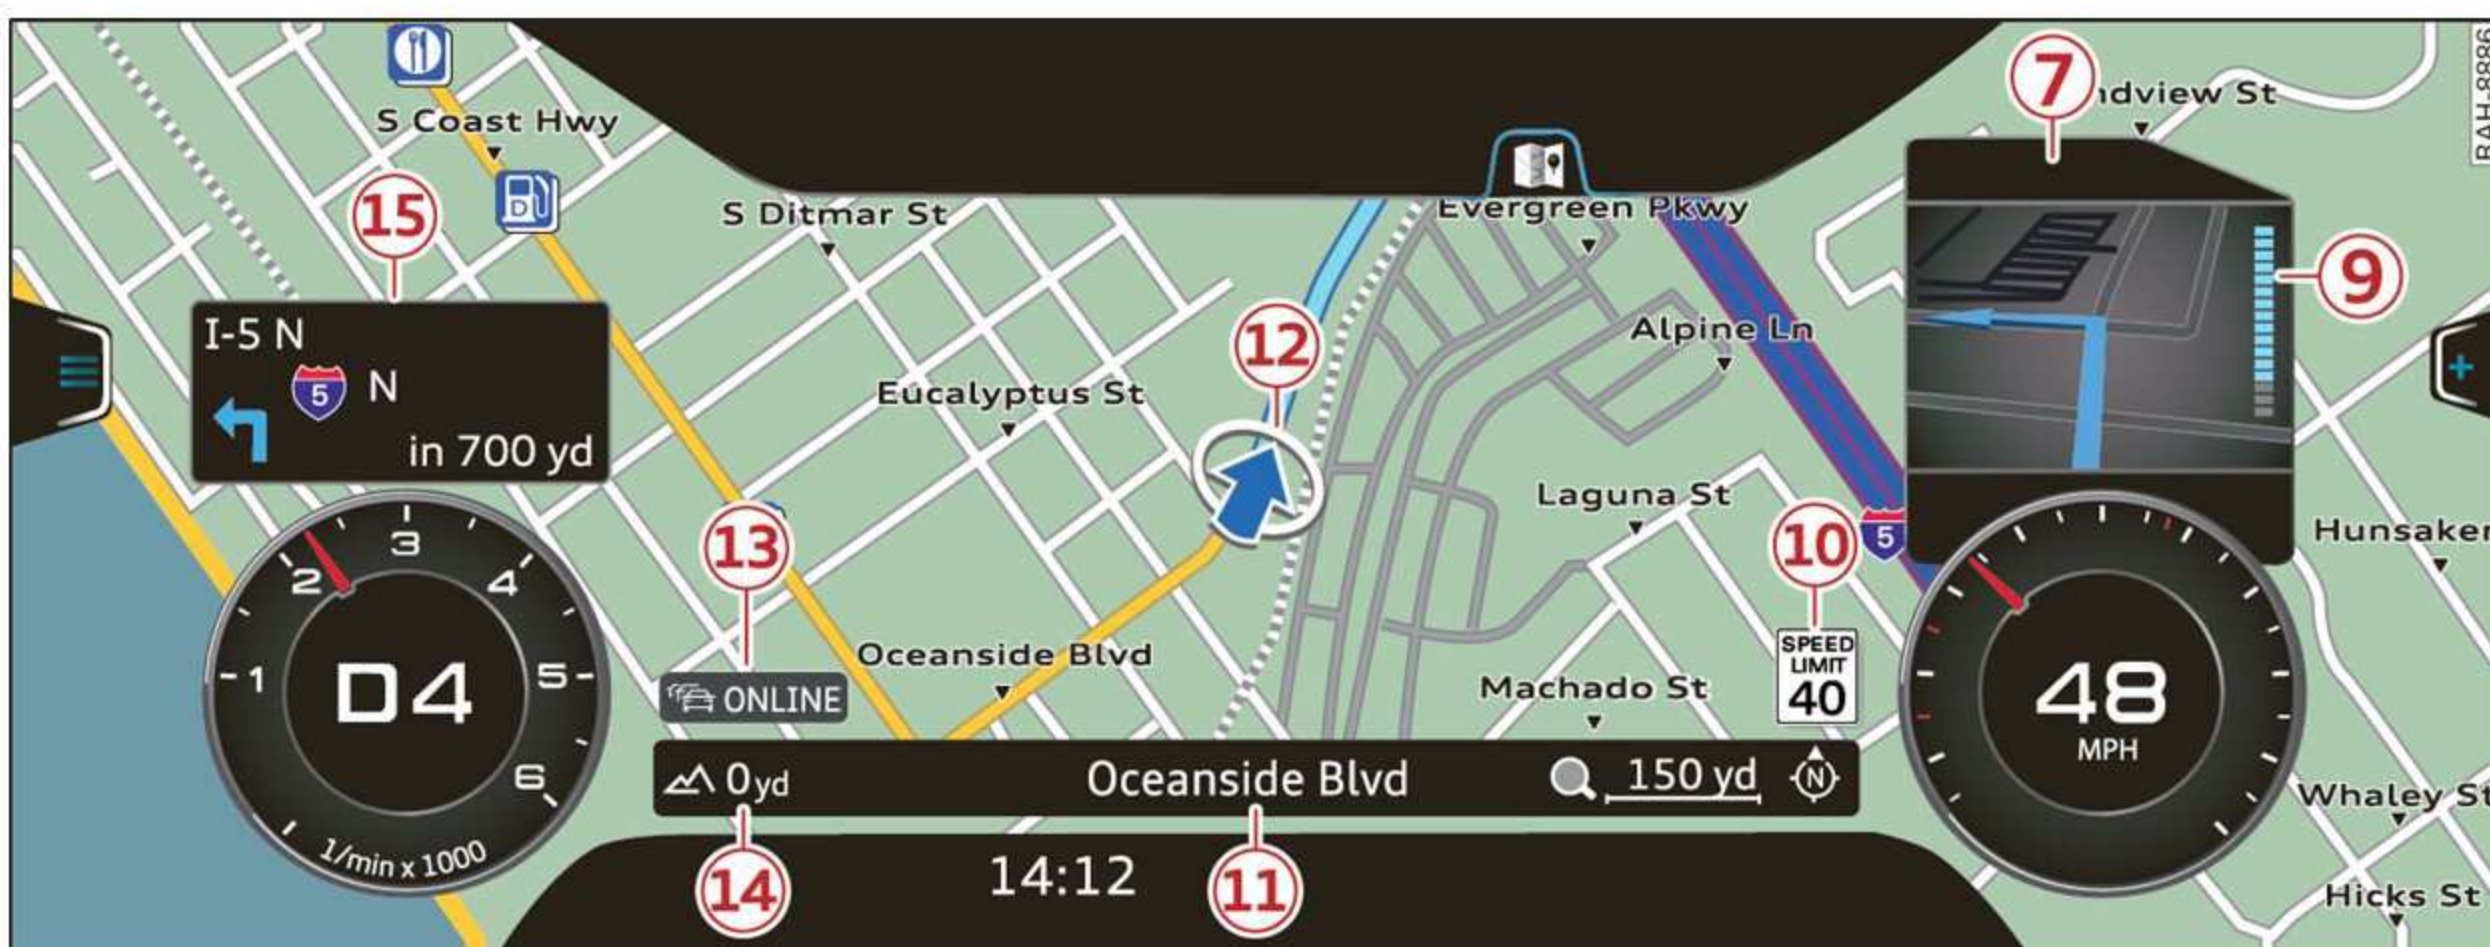

Fig. 124 Diagram: map with crosshairs turned off
- ▶ Press the **NAV/MAP** button repeatedly until the map is displayed ⇒ *fig. 124*.
When the crosshairs are switched off ⇒ *fig. 124:*
- ▶ Press the **NAV/MAP** button repeatedly until the map is displayed ⇒ *page 140, fig. 124*.
Country information: you can display the applicable urban and rural speed limits for any country/state. This information will be automatically shown to you in the route information **15** ⇒ *page 140, fig. 124* when the speed limit is exceeded, if this function is activated ⇒ *page 142*.